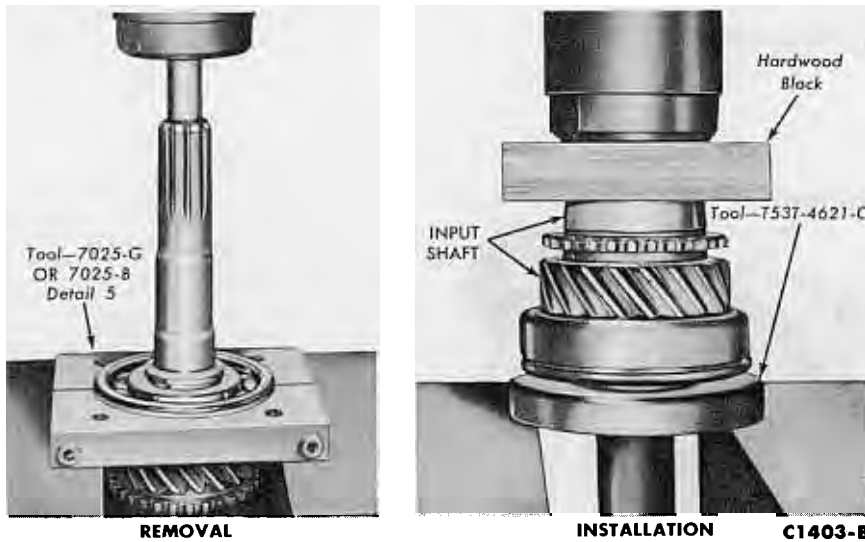

FIG. 16—Removing and Installing Input Gear Bearing
1. If the input shaft and gear bearing needs replacing, remove it as shown in Fig. 16.
2. Press the bearing onto the input shaft with the outer race snap ring groove toward the front (Fig. 16).